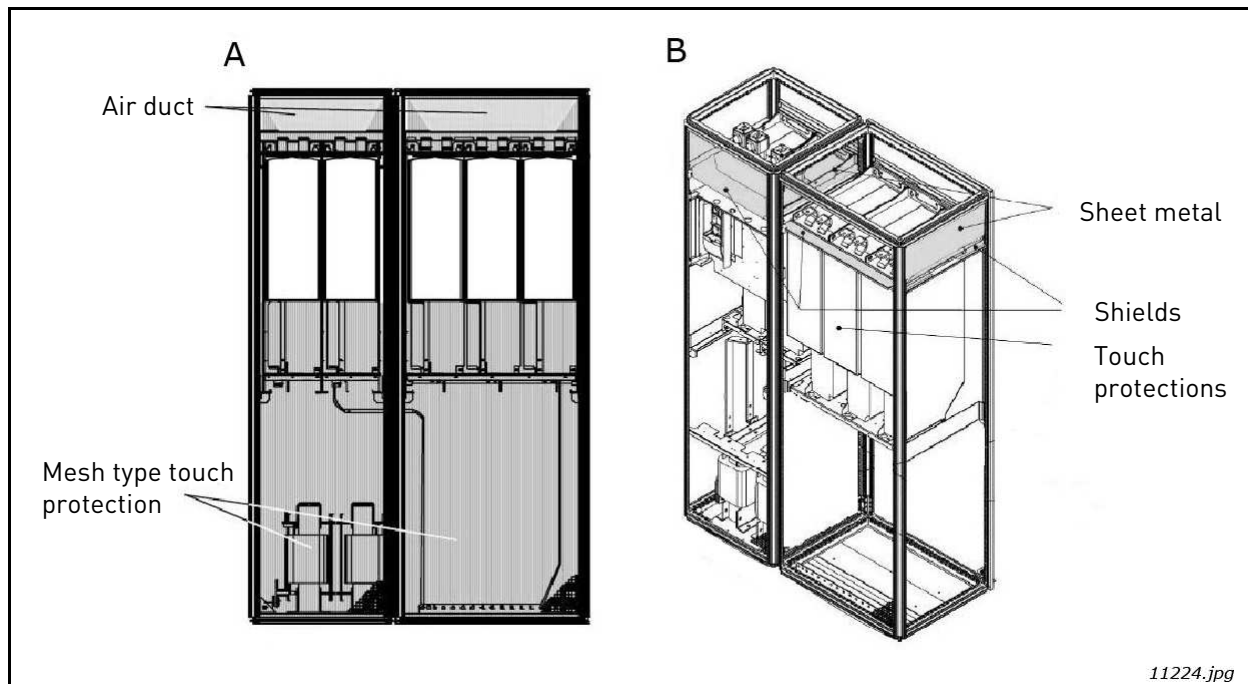

Figure 44. Cabinet cooling airflow guides
- A. Install a closed air duct from the power unit to the outlet on top of the enclosure (A in Figure 44).
- B. Install shields in the gaps between the power unit and the cabinet walls (B in Figure 44). Place the shields above the air outlet gaps at the sides of the module.